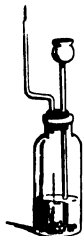

Fig. 24.
3. Make a philosopher's lamp. To do so, remove the d.t. from the gen. (Exp. 20) and insert a capillary tube (Fig. 24). Generate hydrogen as in Exp. 20, and before trying to light the gas, collect a t.t. full by upward displacement, and explode it. If a sharp sound is heard, the air has not been expelled, and to light the gas would make a dangerous explosion. If there is scarcely any sound, or a light muffled one, the escaping gas may be lighted. Note the color of the flame: To ascertain the product, hold the mouth of a dry t.t. or bottle just over the flame for some time, or, better, hold a tube open at both ends over the flame, and look for any deposit. If the tube is long enough, a musical note may be heard, due to the vibration of the column of air in the tube.